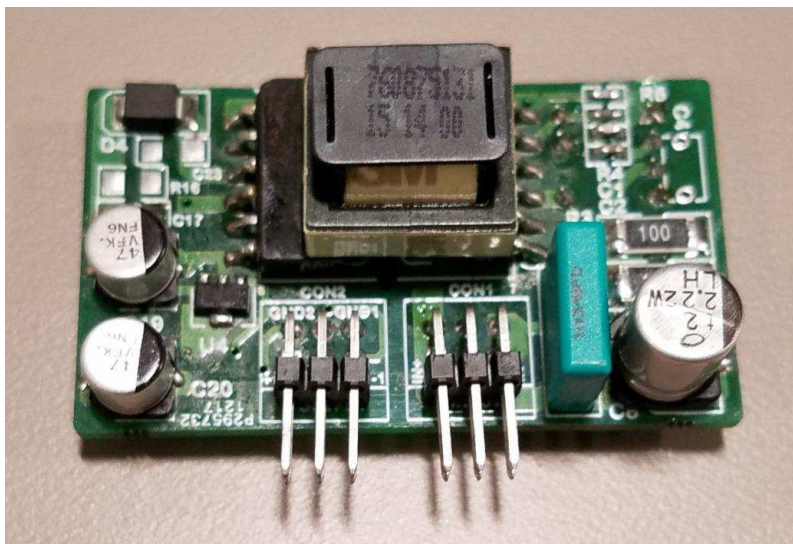

Figure 12: Auxiliary power supply board of Wolfspeed's CRD-02AD065N reference design board
A better cost-effective approach is followed in Wolfspeed's CRD-02AD065N reference design board (as shown in Figure 12). During the positive half cycle, the voltage drop across the current sense resistor CS1 will give the current sense signal and during the negative half cycle, the voltage drop across the current sense resistor CS2 will give the current sense signal. In this approach (and unlike the current transformer (CT) approach), there is